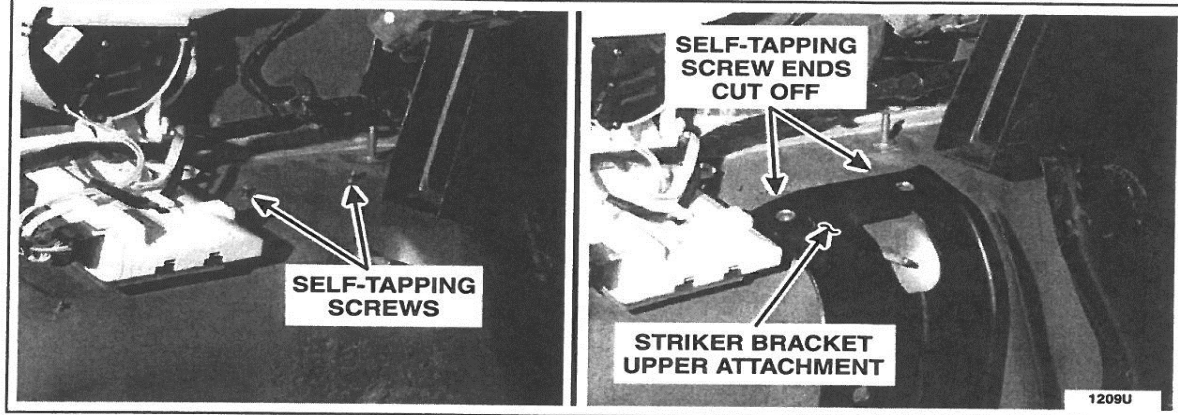

FIGURE 16
34. Working from inside the vehicle, inspect the position of the installed self-tapping screws. Use a suitable angle grinder to cut off the ends of the self-tapping screws that will interfere with installation of the *new* 3rd row seat striker bracket upper attachment (See Figure 16) or with the mounting of any modules, wire harnesses or trim panels.